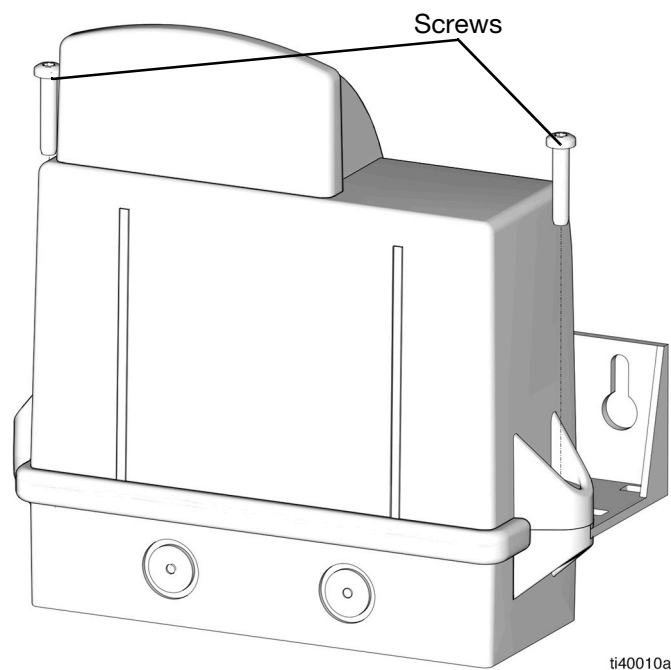

FIG. 8
1. Remove the two (2) screws that keep the case together (FIG. 8).